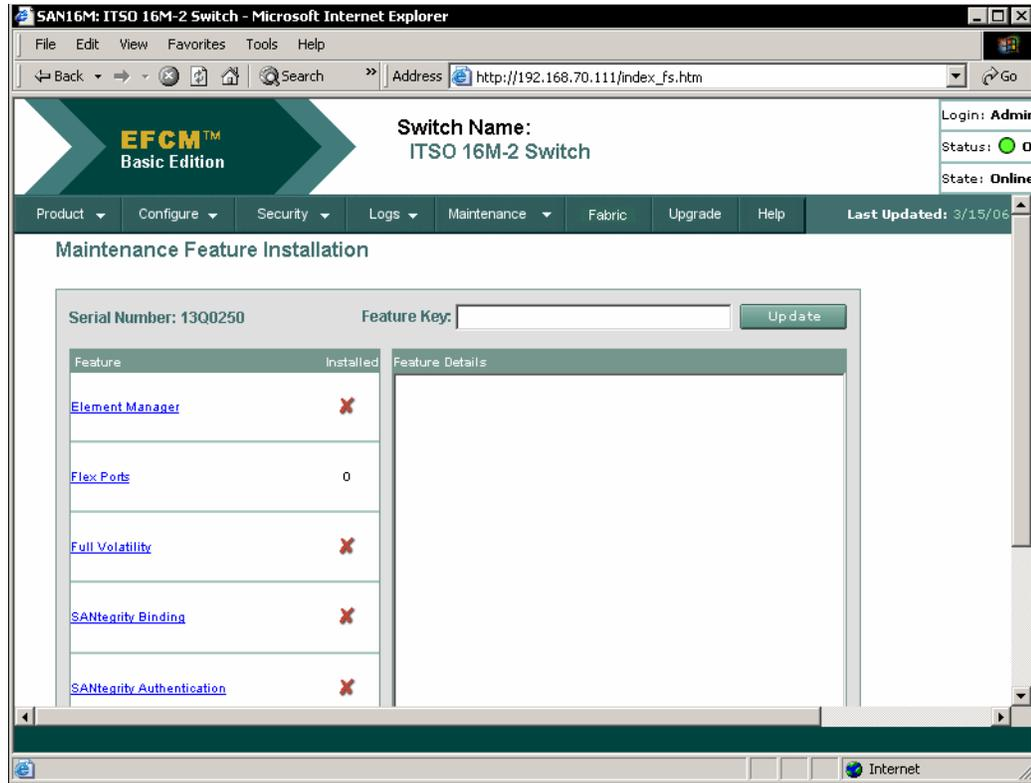

Figure 51 EFCM Basic - Feature Installation view
1. In the EFCM Basic interface select **Option Features** from the Configure, Maintenance, or Security menus. This launches the Maintenance Feature Installation view, as shown in Figure 51.